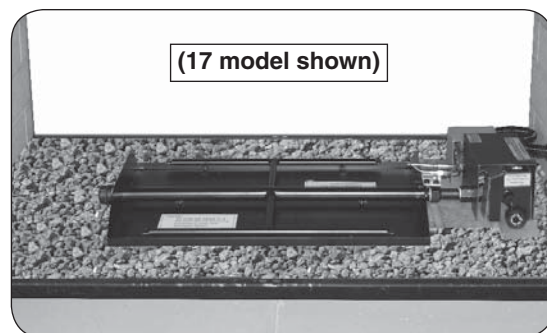

Fig. 20-2 Place lava media (if option purchased)
1. Spread the lava granules on the floor of the fireplace, around all sides of the burner system (see Fig. 20-2).